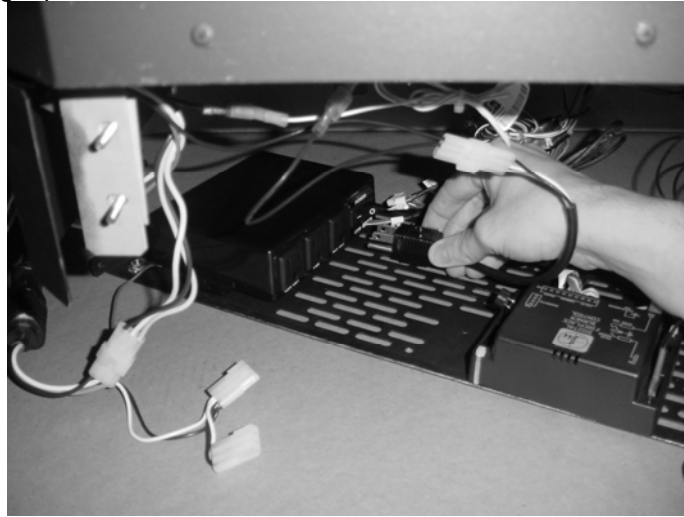

Figure 28
- 18 Attach the accent light power lead to the fan controller in the “AUX OUT” receptacle (see Figure 28).